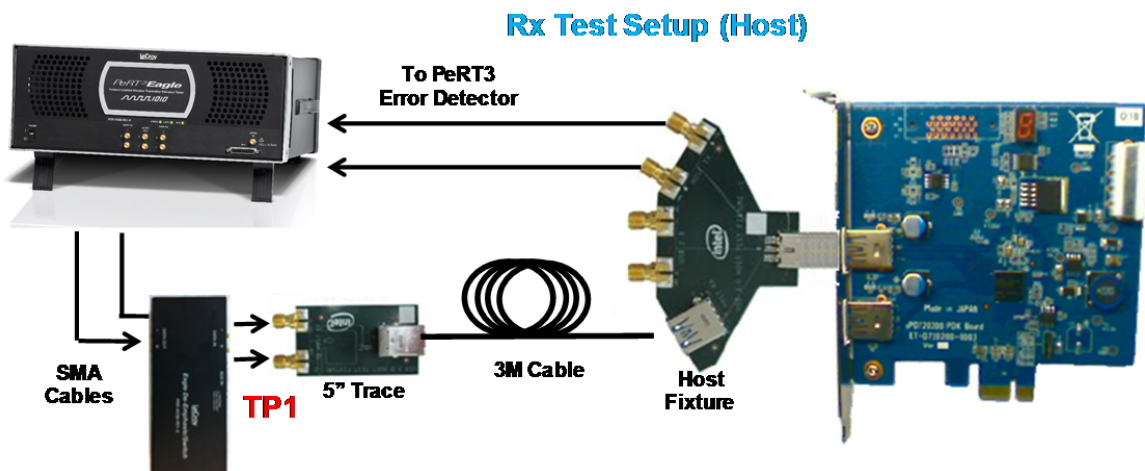

Figure 17
- Connect the test equipment as illustrated in Figure 17 for Host testing